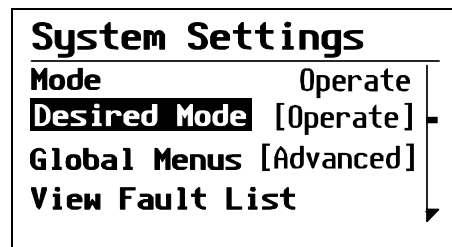

Figure 17 Operate Mode
- The default mode of any Xanbus-enabled device is Operate mode. Whenever any device on the Xanbus System is powered on or reset, it will be in Operate Mode, as shown in Figure 17.